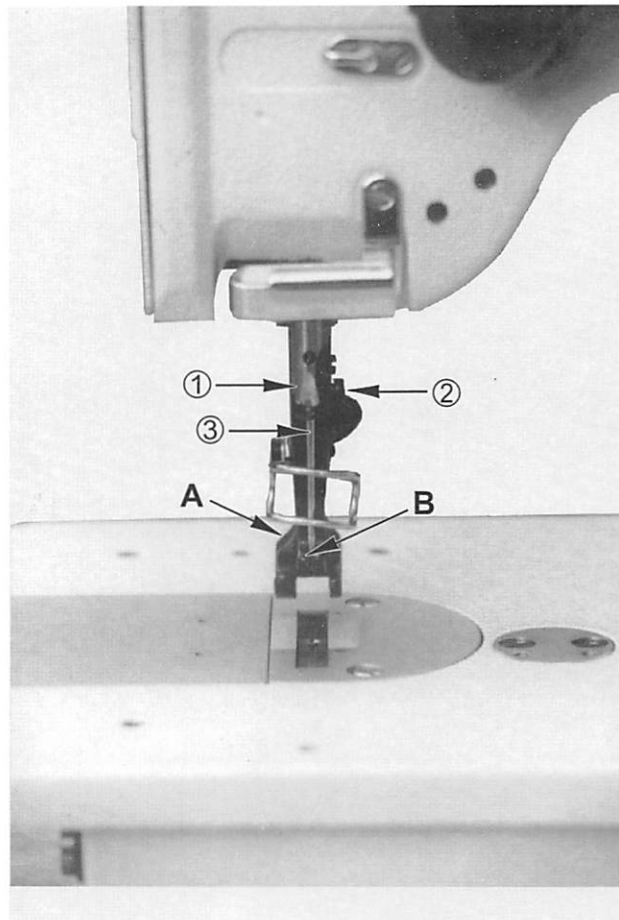

Fig. 7
## NEEDLE (Fig.7)
2. When altering the lift of the lifting presser foot (A, Fig. 7) unequally against that of the vibrating presser foot (B, Fig. 7) or vice versa, see the instructions "ADJUSTING THE HEIGHT OF THE PRESSER FEET".